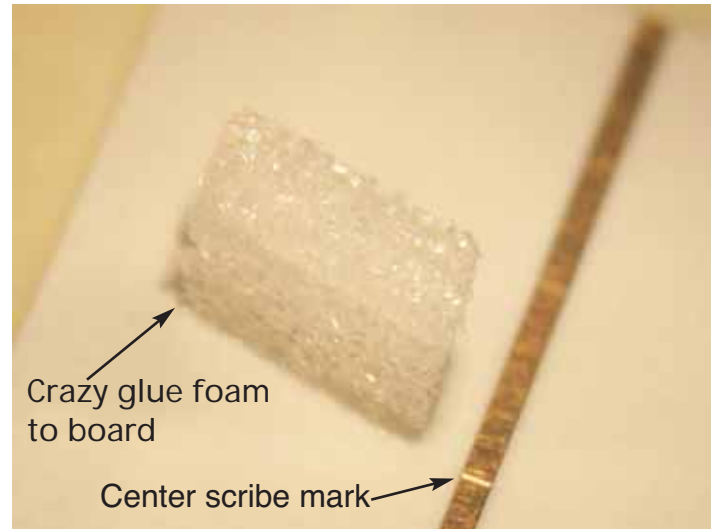

Figure 9: Securing the foam to the board
- Secure the foam block in place with a small amount of low density cyanoacrylate ester (Crazy Glue) as shown in Figure 9. The angular position with respect to the printed line should insure that the central axis of the coil is perpendicular to the line as viewed from the top of the board.